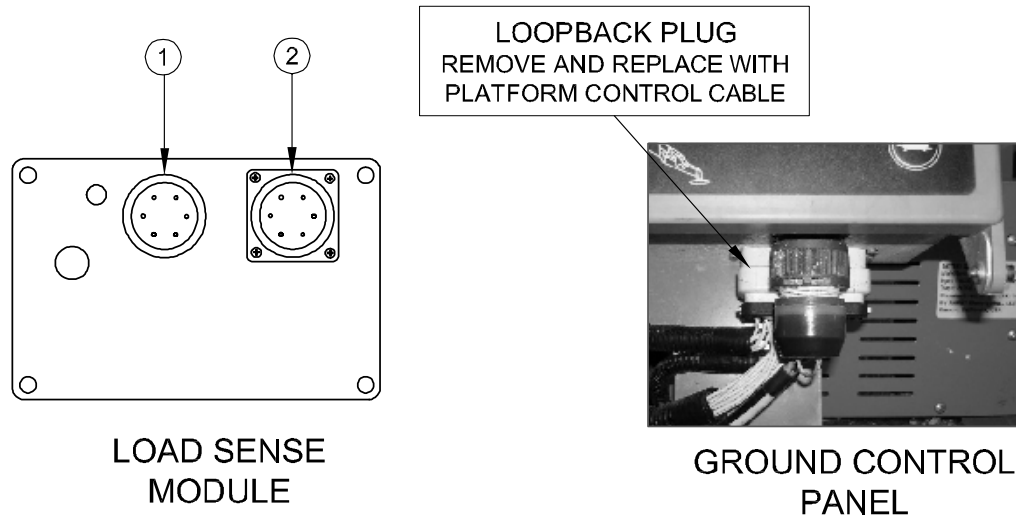

Figure 7-1 Material Lifting Hook Configuration
- Remove the electric loopback plug from the receptacle on the bottom right of the ground control panel (Figure 7-1) and insert the platform control cable into the open receptacle